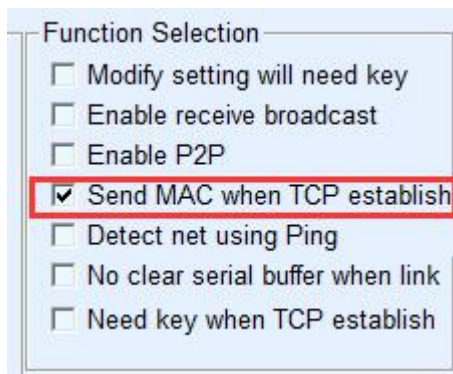

Figure 38 Connect to send MAC Addresses
As shown in figure 38: ordinary Modbus TCP data flow direction (1) → (2) → (3) → (4) . In other words, Modbus TCP instruction is first converted into corresponding Modbus RTU instruction, and then the device responds Modbus RTU instruction to Modbus gateway, which is then converted into Modbus TCP again and sent to the monitoring host computer.